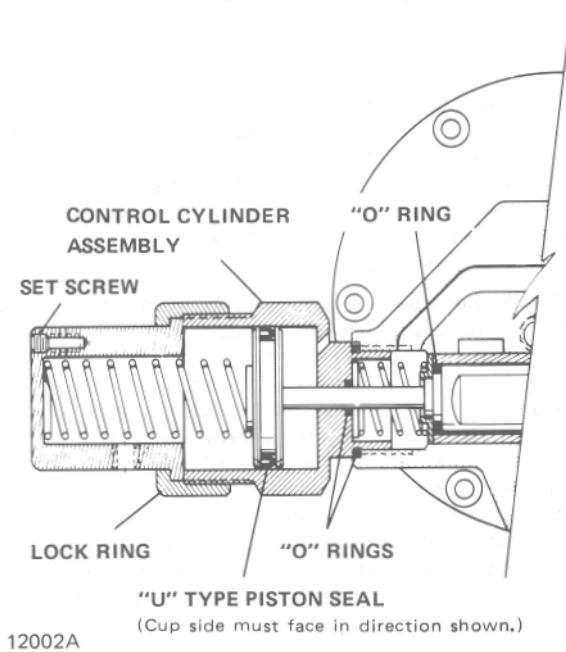
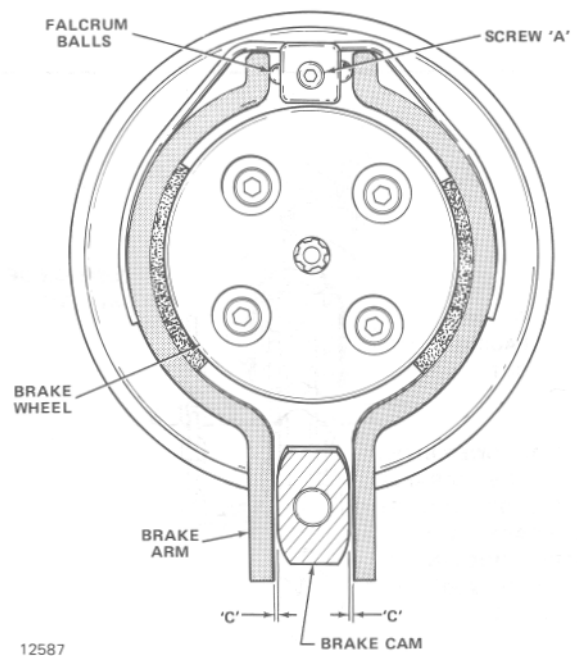

Figure 7-14. Section View Showing Assembly of Control Cylinder on Control Head (Pendant Throttle Control Models).
Figure 7-15. Brake Adjustments.
(2) Lift muffler and screen from recess in control head housing.
(3) On pendant throttle control models, remove control cylinder assemblies from each side of control head housing (Figure 7-14). On pull cord control models,
(2) Use new "O" ring seals at each end of valve. Install spring guides and valve springs in bores on each side of housing and secure with spring retainer (pull cord models) or control cylinders (pendant throttle control models). Use new "O" ring gaskets.
(3) At reassembly of control cylinders (pendant throttle control models), use new "U" type seals on piston heads and "O" ring seals on piston stems. Be sure "U" type seals face direction illustrated in Figure 7-14.
(4) Use new "O" ring gaskets on adjusting screws. When installing screws in control head housing, turn them in until heads are flush or slightly below face of housing. Adjustment is accomplished during testing of hoist, paragraph 2-4.
(5) At reassembly of screen and air inlet swivel, install a new "O" ring seal inside swivel bushing.
(6) In mounting control head housing on hoist, use a new motor-to-head air seal gasket and a new head-to-frame gasket.
d. **Assembly of Brake.** If the brake linings show excessive wear, replace brake shoes. In reassembling the brake, the brake wheel assembly goes into position first and is fastened in place by the four screws referred to in paragraph 7-2.f.0). (See Figures 7-8 and 7-9.) Now place the steel fulcrum balls in their receiving cup, using a small amount of thick grease to hold them in place. The balls should retract completely into the receiving cups. Now place the shoes up to the fulcrum balls and brake wheel. Replace the brake spring, using the spreader tool to start the spring over the shoes. (See Figures 7-4 and 7-5.) Tap the spring into place. Adjust brake shoes per instructions in Figure 7-15.